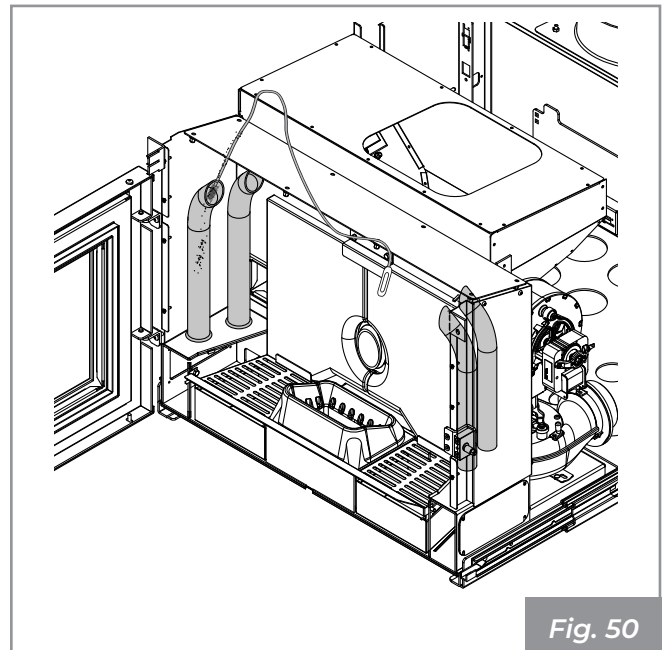

Fig. 50
- Use a flexible brush to clean the exchanger pipes in the combustion chamber (**Fig. 50**)